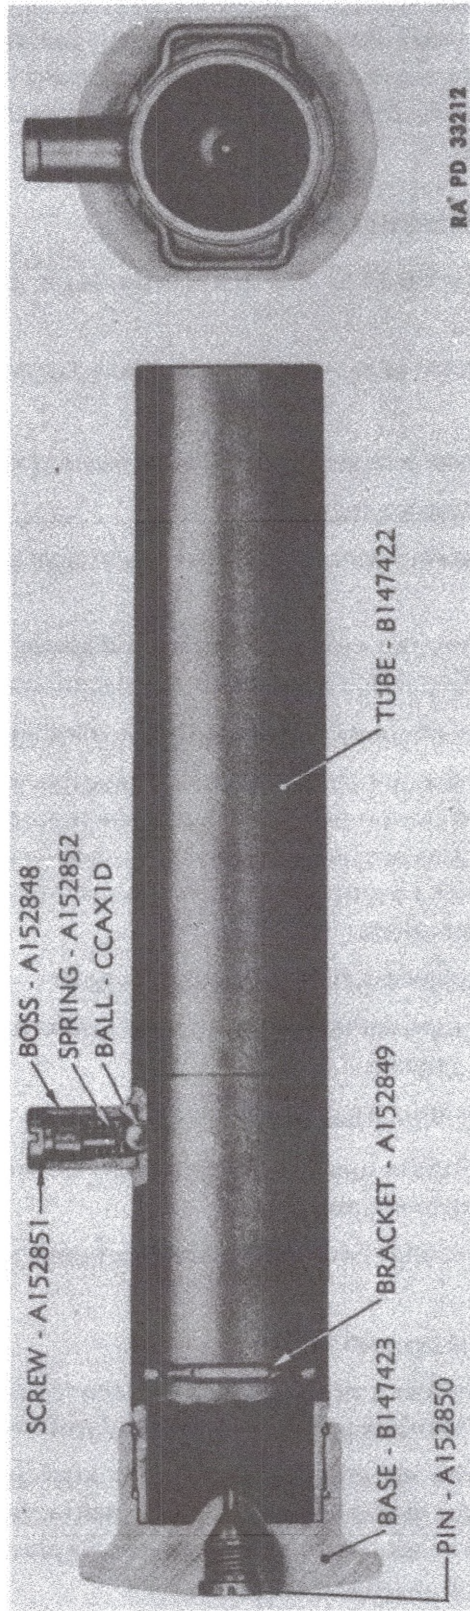

Figure 14 — Projector, Signal, Ground, M3
(1) Replace holder in holder base and insert key through base, holder, and support body. Peen ends of key pin and base pin as before.
(2) Replace base and body bushings and screw onto body as before.
(3) Assemble spike point and head to body and peen heads of pins. Replace spike in base. Replace spike lock screw.
6. GROUND SIGNAL PROJECTOR M3 (fig. 14).